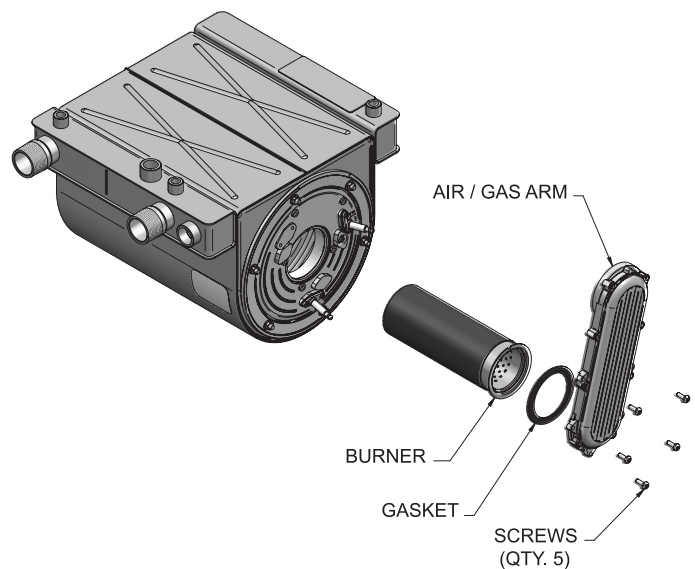

Figure 77. Burner Assembly
2. If the flame is unsatisfactory at either high fire or low fire, turn off water heater and allow water heater to cool down. Remove the burner (see Figure 77 below) and clean it thoroughly using a vacuum cleaner or compressed air. Do not use compressed air to clean burner if performed inside a building.
3. When replacing the burner, ensure gasket is in good condition and positioned correctly (Figure 77).